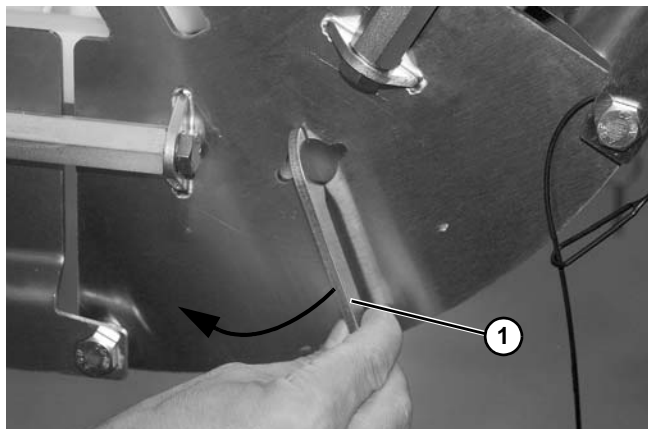

Figure 107
3. Rotate plate (Figure 107, item 1) on the side of the lower knuckle.